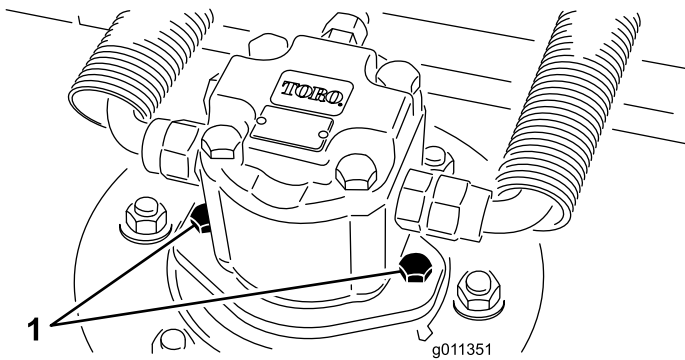

Figure 12
2. Disconnect and remove the hydraulic motor from the cutting unit (Figure 12). Cover the top of the spindle to prevent contamination.